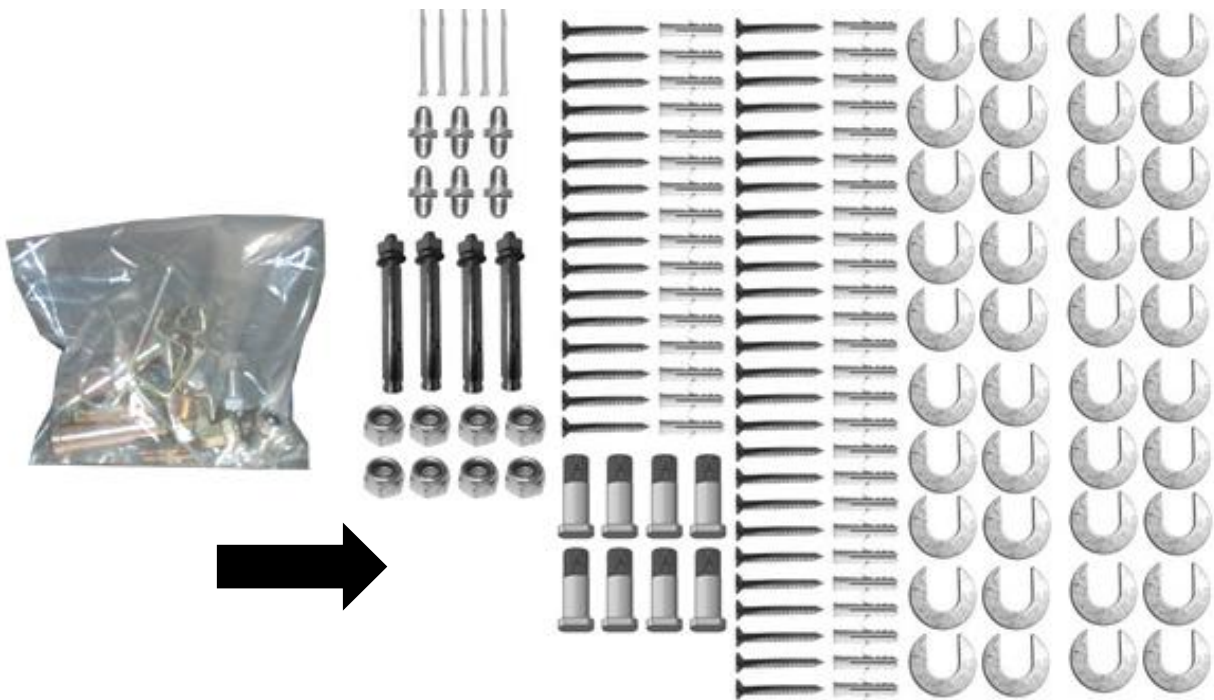

Fig. 8
4. Check the parts of the parts bag according to the parts bag list (**See Fig.8**).